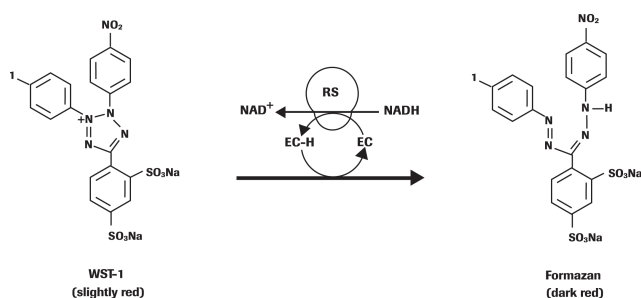

Fig. 6: Cleavage of the tetrazolium salt WST-1 (4-[3-(4-iodophenyl)-2-(4-nitrophenyl)-2H-5-tetrazolio]-1,3-benzene disulfonate) to formazan.
The assay is based on the cleavage of the slightly red tetrazolium salt WST-1 to form a dark red formazan dye by metabolically active cells (Fig. 6). Therefore, this conversion only occurs in viable cells. The formazan dye formed is soluble in aqueous solutions and is directly quantified using a scanning multiwell spectrophotometer (ELISA reader). This ensures a high degree of accuracy, enables online computer processing of the data (data collection, calculation, and report generation) and, thereby, enables the rapid and convenient handling of a high number of samples.
- 1 Cells grown in a 96-well tissue-culture plate are incubated with the slightly red WST-1 solution (1:10 final dilution) for 0.5 to 4 hours, see Figure 6.